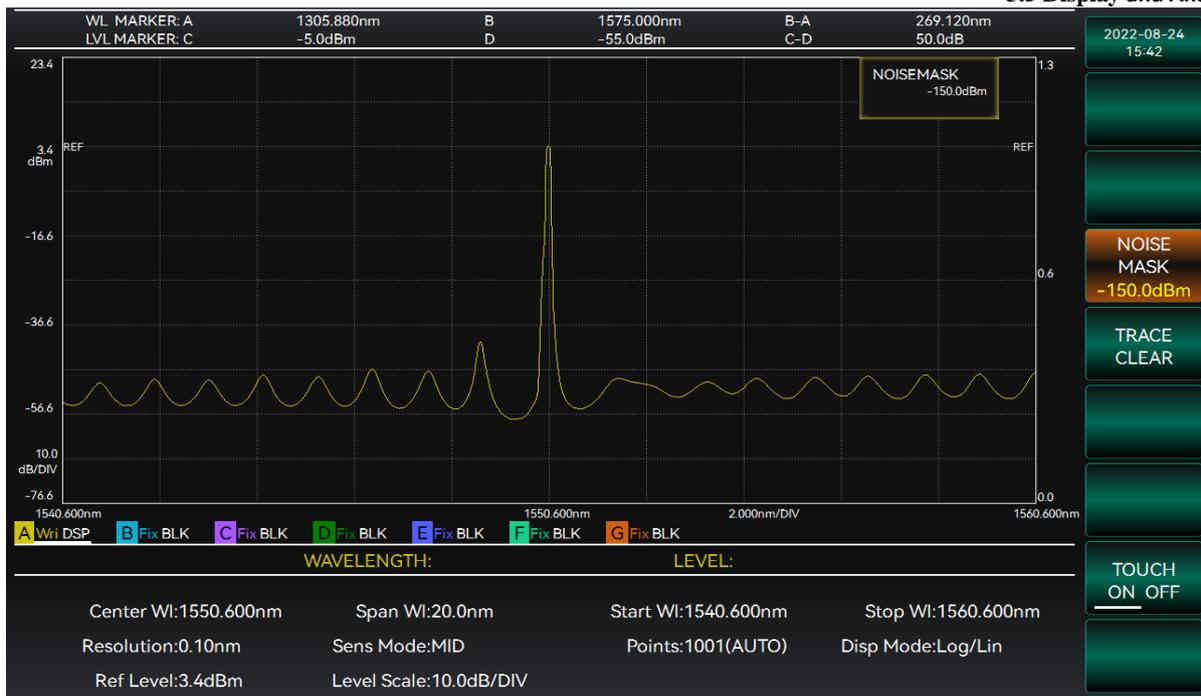

Figure 3-26 Setting noise masking interface
2. Select [Noise Mask] and enter the threshold value via the knob or number keys to complete the setting. The operation interface is shown in Figure 3-26.